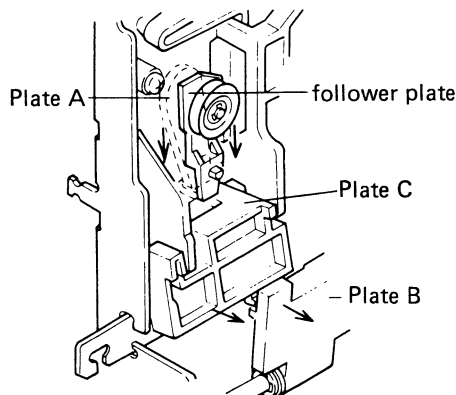

Fig. 5-6 Auto-stop Operation 3
7. When plate A is pushed down, plate C is moved thru plate B, and the operation keys are unlocked (see Fig. 5-6).